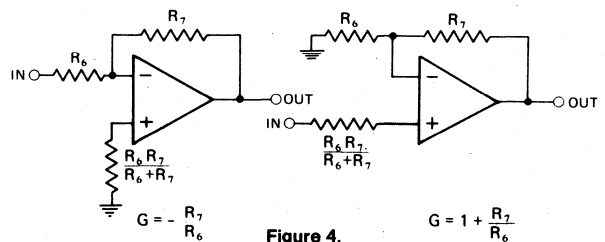
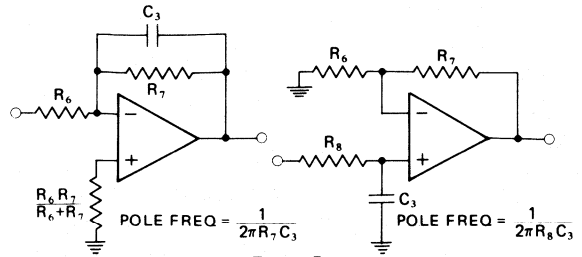

Figure 4. Uncommitted Op Amp Gain Configurations
Figure 5.
7. This procedure is based on unity gain output for the desired function. For additional gain, the fourth uncommitted operational amplifier should be used as an inverting or noninverting gain stage following the selected output. See Figure 4. A third pole on the real axis of the s-plane may also be added to the transfer function by adding a capacitor to the gain stage as shown in Figure 5.
Any output voltage level can be set using external resistors RV1 and RV2 as shown Figure 4-a and 5-a.